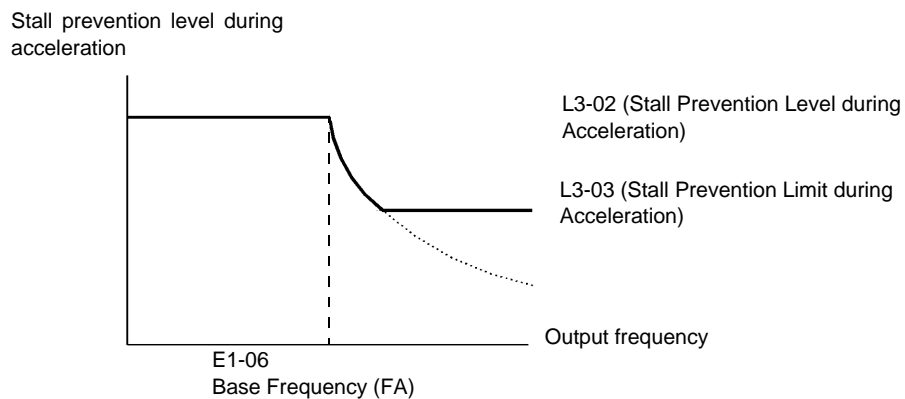

Fig 6.28 Stall Prevention Level and Limit During Acceleration
- If the motor is used in the constant power range, the stall prevention level will be lowered automatically to prevent stalling. L3-03 is the limit value to prevent the stall prevention level in the constant power range from being reduced more than necessary (see Fig 6.28).